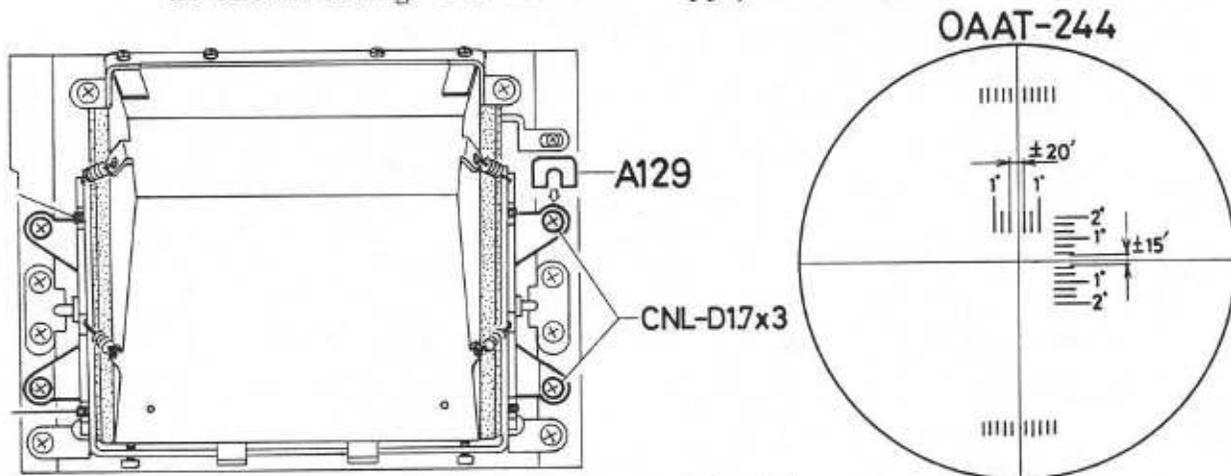

Fig. 34
2. Apply the adjusting washer (A129 x2) either the front or back side as shown in Fig. 34. But do not apply A129 thicker than 0.3mm.